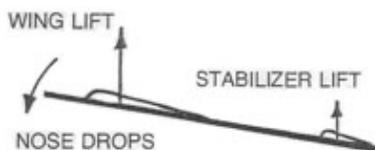
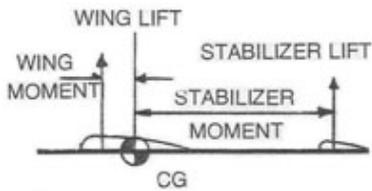

Figure 8
Figure 9
The wing is now stalled and has virtually no lifting force. How can we prevent the wing from automatically increasing its angle until it stalls? One of the most common ways is to add a fuselage and at the tail end of the fuselage mount a small wing known as a stabilizer. Now as the wing angle increases so does the angle of the stabilizer. As the angle of attack increases so does the lift created and thus the stabilizer will bring the tail back up to the horizontal position (Fig 8). In level flight the lift created by the wing and the stabilizer balance each other around the centre of gravity (CG) of the model by the simple principle of moments (Fig. 9), such that wing lift x wing moment = stabilizer lift x stabilizer moment.